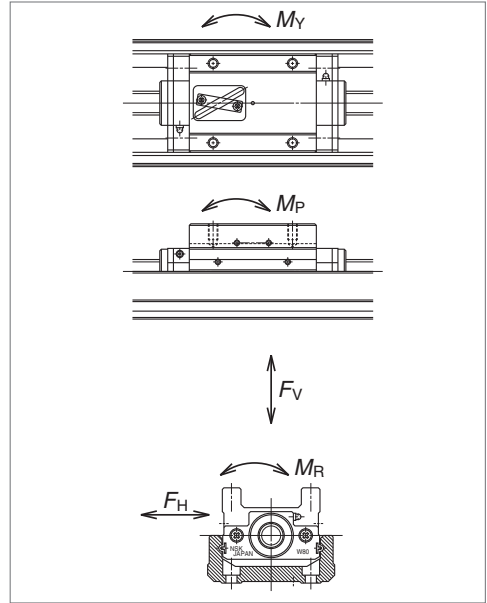

Fig. 4.6 Direction of load
(1) Life of Linear Guide
Study the load to be applied to the linear guide of Monocarrier (Fig. 4.6). The equivalent load (F_e) is determined by substituting the load for equation ① (Eq.②) : in case of the tightly coupled double slider type).